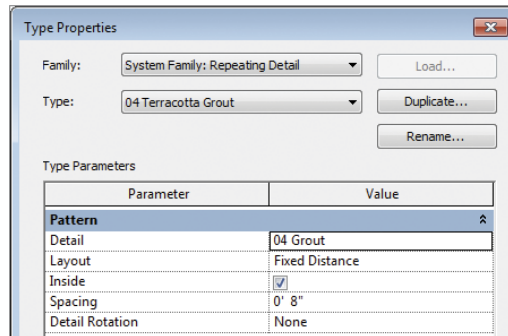

FIGURE 11.17 The repeating detail's type properties
8. The Type Properties dialog box looks like Figure 11.17. Click OK when you've finished.